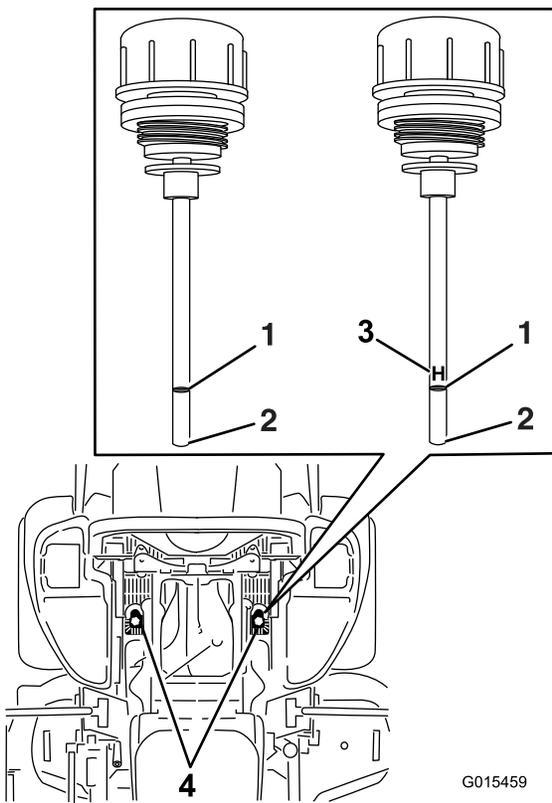

Figure 84
6. Clean the area around the dipsticks of the hydraulic system reservoirs (Figure 84).
7. Remove one dipstick from the hydraulic reservoir (Figure 84).
9. Remove the dipstick and look at the end (Figure 84).